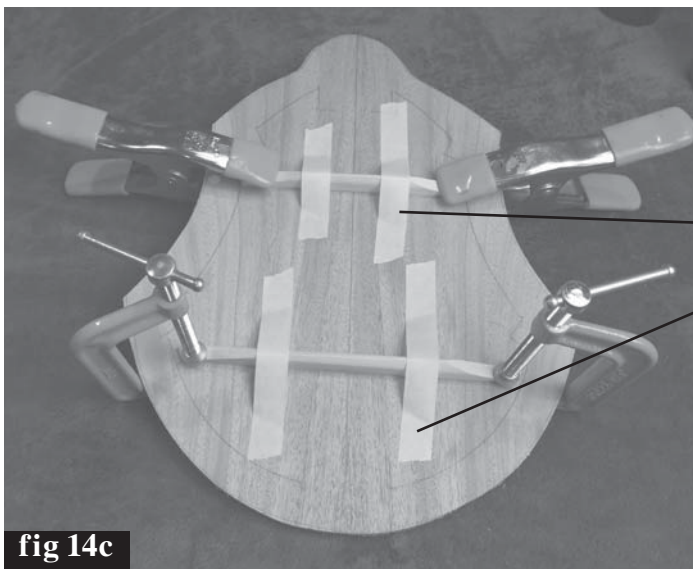

fig 14c
**HINT:** Use masking tape to hold the braces in place while you put a clamp at each end (Fig 14c). This will produce an arched back because of the curve in the braces. Double-check the middle to see if you might need to add some weight in the center to achieve a firm glue joint along the entire brace. You can prop the back on a block of wood to support the middle, and then add weights to the center of the braces, if necessary.